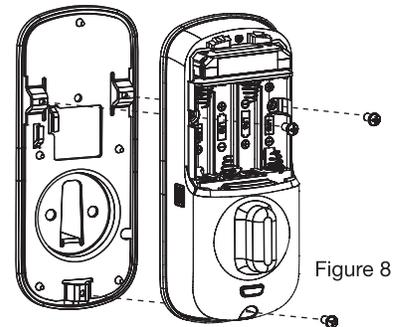

Figure 8
- 8. Install and secure using (3) M4 x 8mm [8-32 x 5/16"] pan head screws through the inside escutcheon into the mounting plate (Fig. 8).
- 9. Insert four (4) AA alkaline batteries. The lock will flash, beep several times and respond with the vocal prompt: